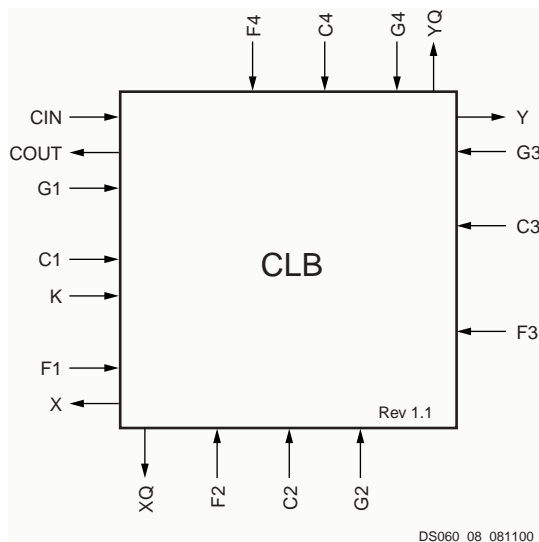

Figure 9: CLB Interconnect Signals
A block diagram of the CLB interface signals is shown in Figure 9. The input signals to the CLB are distributed evenly on all four sides providing maximum routing flexibility. In general, the entire architecture is symmetrical and regular. It is well suited to established placement and routing algorithms. Inputs, outputs, and function generators can freely swap positions within a CLB to avoid routing congestion during the placement and routing operation. The exceptions are the clock (K) input and CIN/COUT signals. The K input is routed to dedicated global vertical lines as well as four single-length lines and is on the left side of the CLB. The CIN/COUT signals are routed through dedicated interconnects which do not interfere with the general routing structure. The output signals from the CLB are available to drive both vertical and horizontal channels.